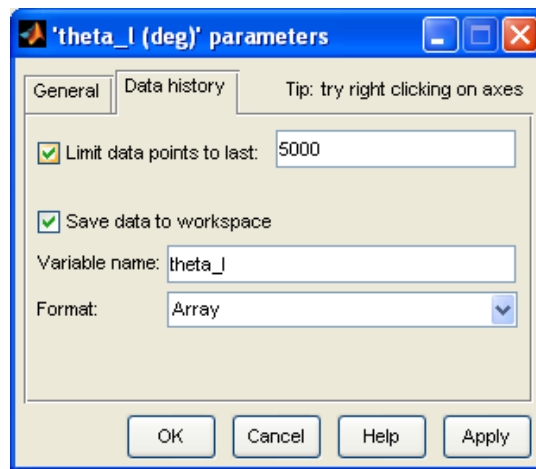

Figure A.18: Adjusting scope parameters to save data
2. Click on *Parameters* icon and select the *Data History* tab, as shown in Figure A.18.